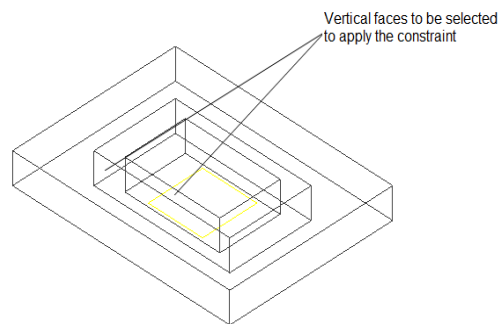

Figure 18-37 Faces selected to apply the **Mate** constraint
9. Change the display type of both plates to **Wireframe** and then apply the **Mate** constraint with an offset of 10 mm between the selected faces, as shown in Figure 18-37; the Inner Plate gets shifted.